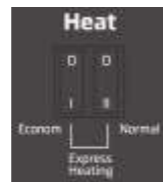

Fig.3
2. To select the first heating stage (440 W - Econom), put the left key on the electric heating switch located near the control panel in the upper part of the appliance body to I position (Fig.3).